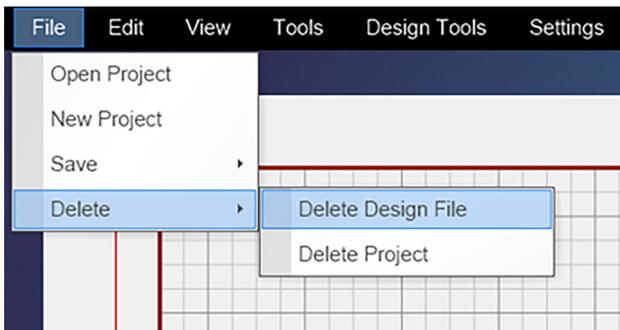

Fig. 29
2. Select Delete and then Delete Design File (Fig. 29). A window will open showing all the designs in the Q-matic Library.